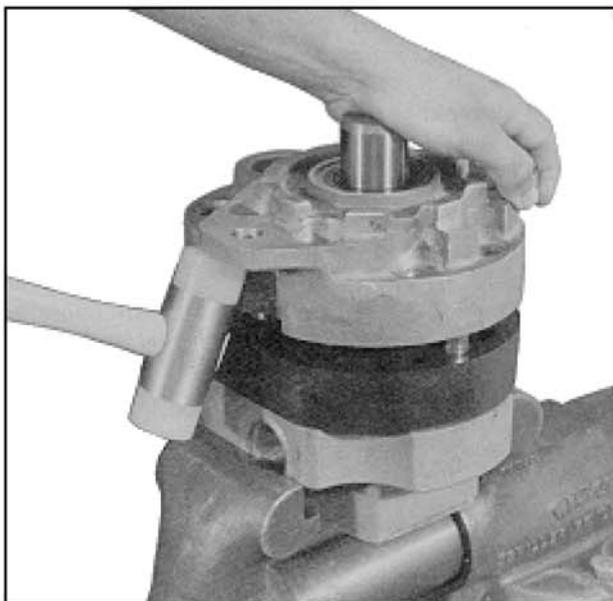

FIGURE 2
3.) Using the soft-faced hammer or mallet, tap upward on the ear of the SAE mounting flange. (Fig. 2) By putting the heel of your hand over the output shaft and your fingers on the opposite ear you can keep the front end cap from falling back down after each successive rap.